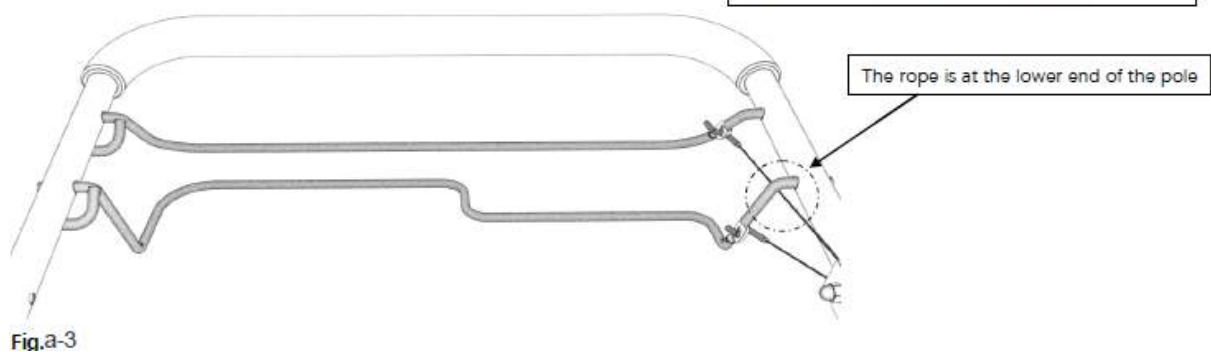

Fig.a-3
3. Insert the self-propelled cable into the self-propelled lever. (fig. a-3)